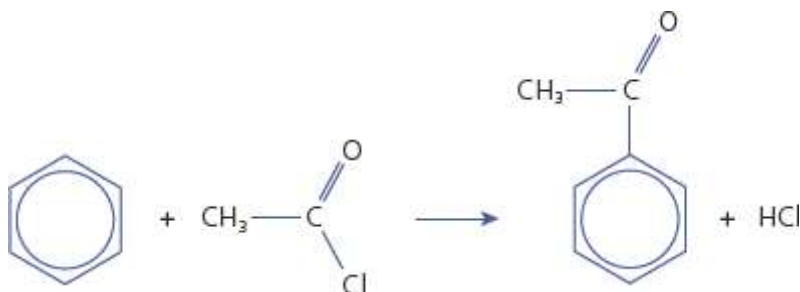

Figure 30.11
- Benzene can also be **acylated** by reaction with an acyl halide (Figure 30.11) such as ethanoyl chloride in the presence of an aluminium chloride catalyst to form phenylethanone.